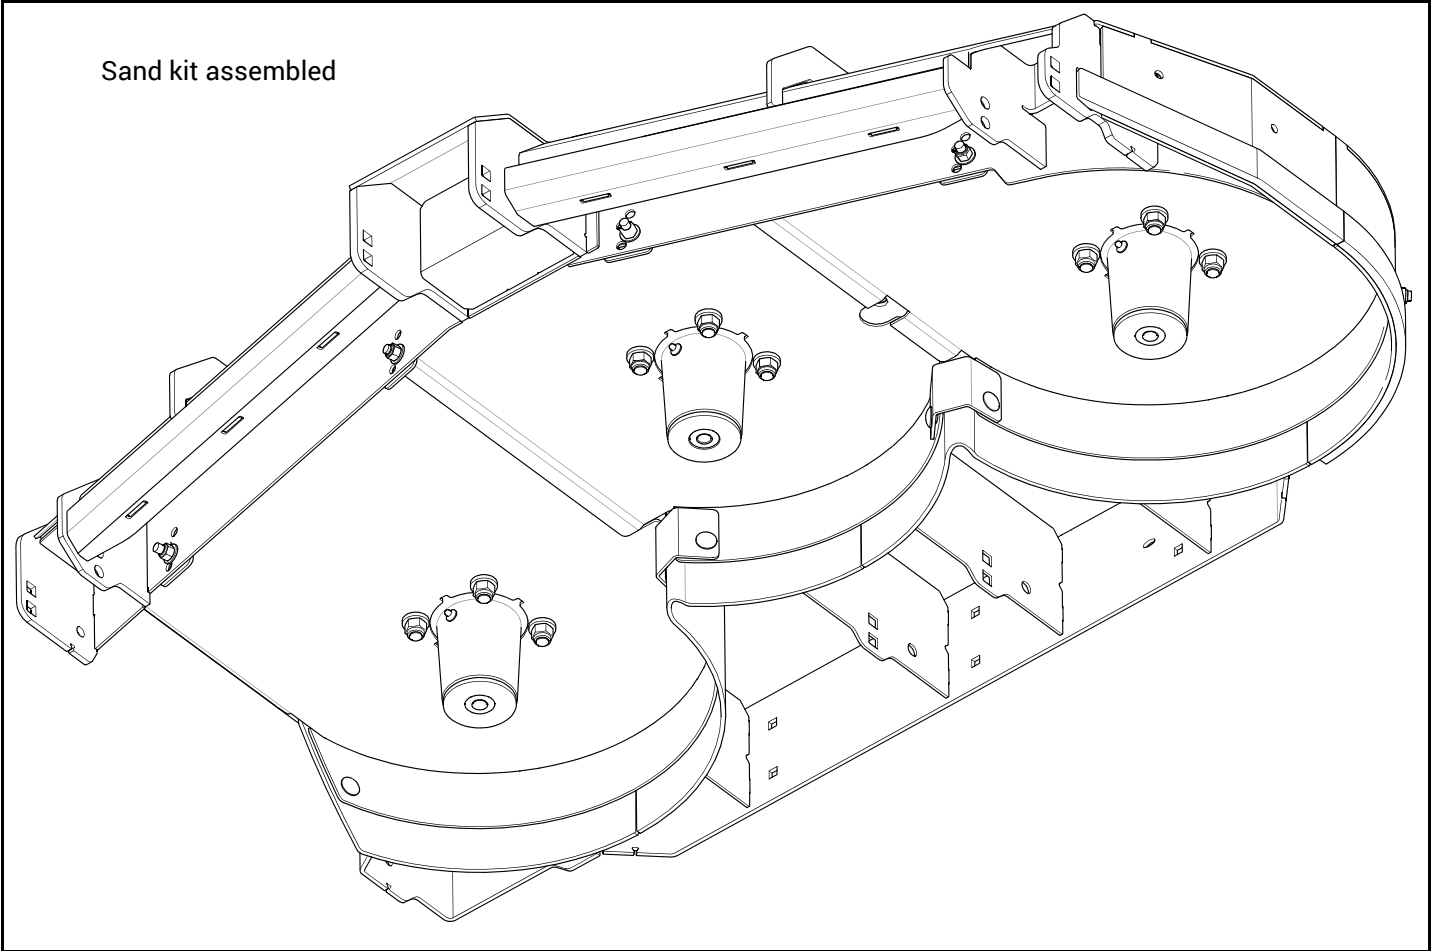

FIG. 8
23. Use the provided hardware to install the two sand kit caps and to bolt the plates to the deck. Fig. 7 & Fig. 8